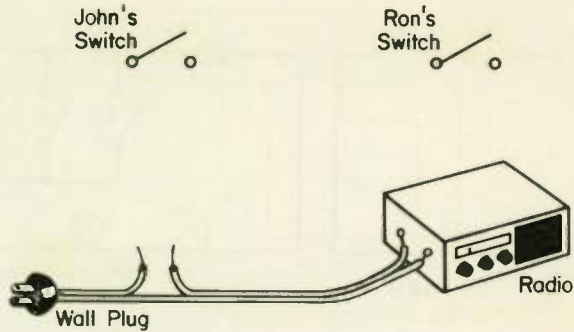

Fig. 3
2. (a) The cord and switches are shown again in Fig. 3. Would you use an AND circuit or an OR circuit to connect up the radio so that it could be turned on by either switch?